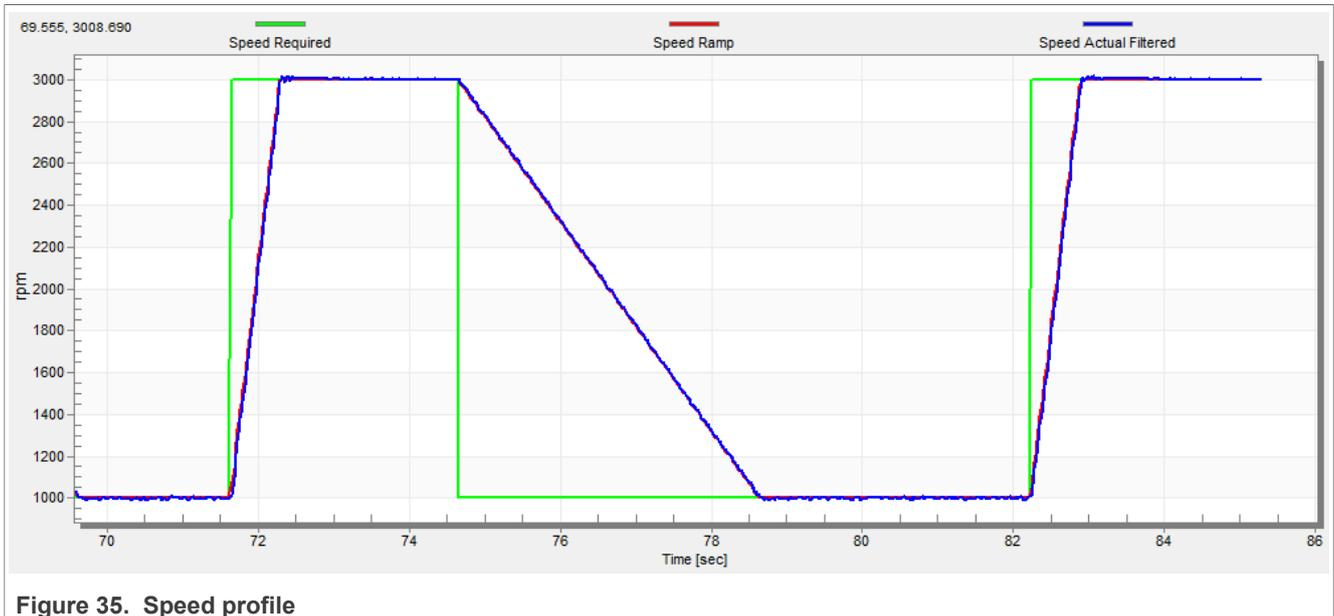

Figure 35. Speed profile
2. The increments are common for the scalar and speed control. The increment fields are in the "Speed loop" tab and accessible in both tuning modes. Clicking the "Update target" button applies the changes to the MCU. An example speed profile is shown in Figure 35. The ramp increment down is set to 500 rpm/sec and the increment up is set to 3000 rpm/sec.